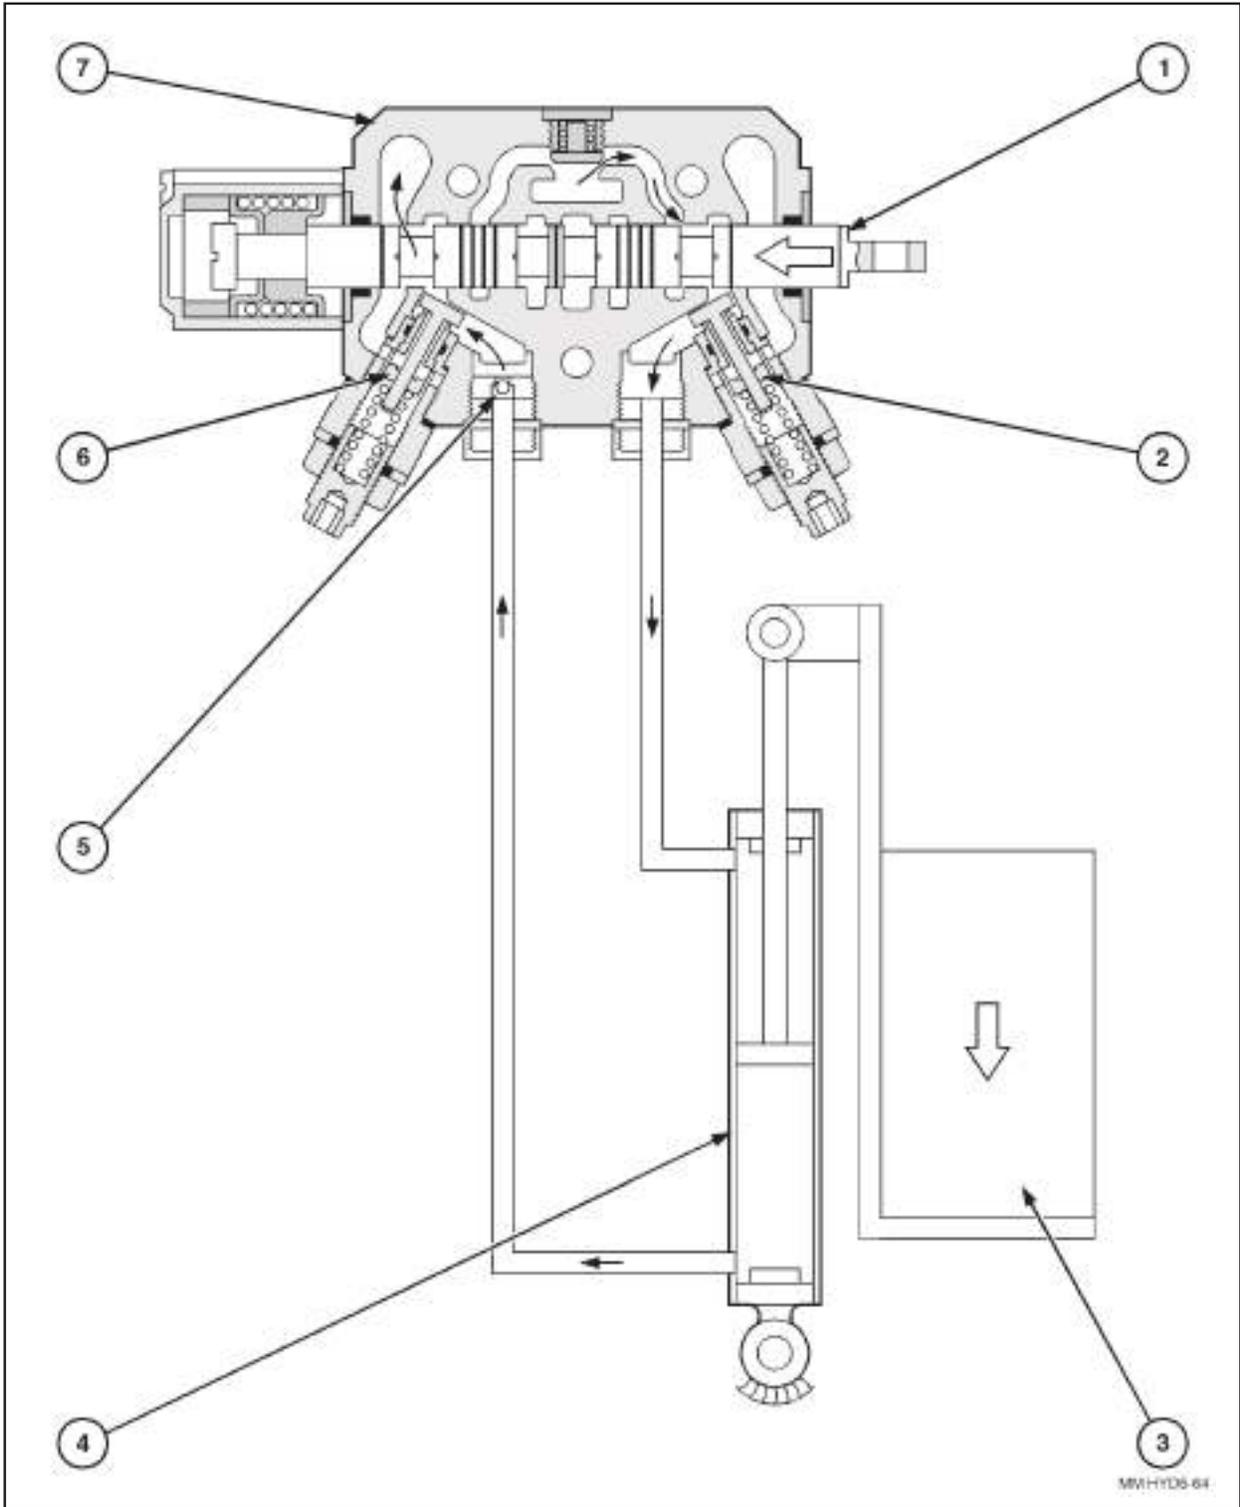

FIGURE 26. LIFT CIRCUIT OIL FLOW - NORMAL OPERATION
- The functions are shown in lift circuit operational conditions in figures 26 to 30.